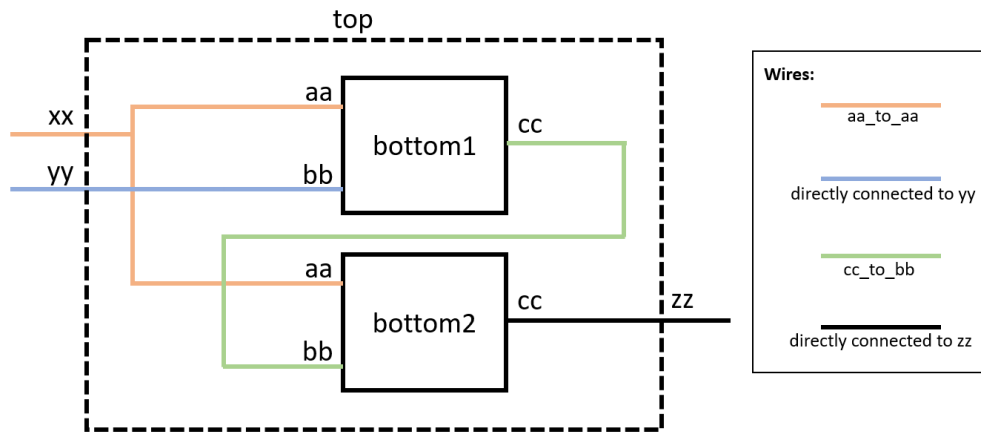

Figure 6.4: Example schematic of a hierarchical design. Wire names are also shown on the right-hand side
**Example 3.** Consider the schematic illustrated in figure 6.4. The module named **top** has two instances of the module named **bottom**. Both instances share the same **aa** input which is also connected to the **top** module's input **xx**. In such cases, a separate wire (**aa\_to\_aa**) has to be defined. However, the input **bb** of the first **bottom** instance and the output **cc** of the second **bottom** instance are directly connected to the **top** module's input **yy** and output **zz** respectively. Hence, they don't need additional wires to be defined. Code snippets below show how to implement this schematic in SystemVerilog.